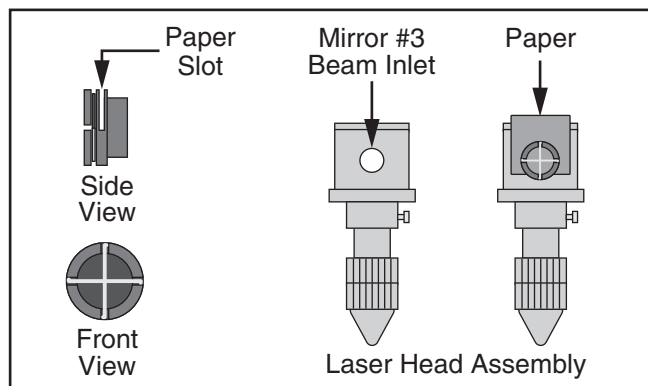

Figure 96. Laser beam alignment gauge installed in beam inlet.
14. Insert a 1" piece of paper or manila folder into small slot on laser beam alignment gauge behind wire crosshairs, and install gauge in beam inlet on laser head assembly (see **Figure 96**).